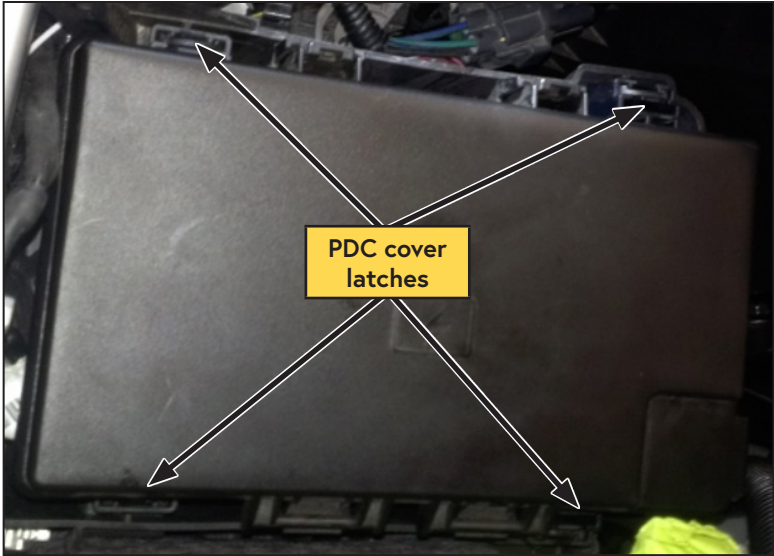

Figure 37 — PDC latches
- Locate the Power Distribution Center (PDC) fuse box under hood of the vehicle (Figure 37).
- All PDC connectors are found on the bottom of the PDC housing. Remove the PDC housing from the bracket by simultaneously squeezing all 4 latches and pulling the PDC housing up out of the bracket (Figure 37).